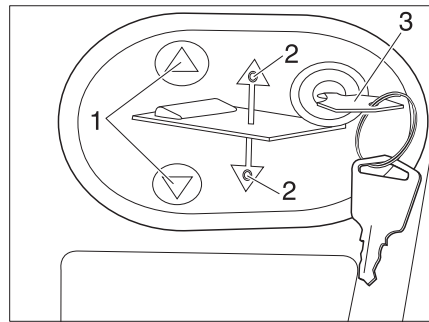

Fig. 166 Operating panel for electrical pull-down bed
- Insert the key (Fig. 166,3) into the operating panel.
- Press the  (Fig. 166,1) button and keep it pressed. The corresponding LED (Fig. 166,2) will light up and the pull-down bed will lower into the middle position and remain there.
- Press the  (Fig. 166,1) button and keep it pressed. The respective LED (Fig. 166,2) lights up and the pull-down bed moves down as far as it will go.